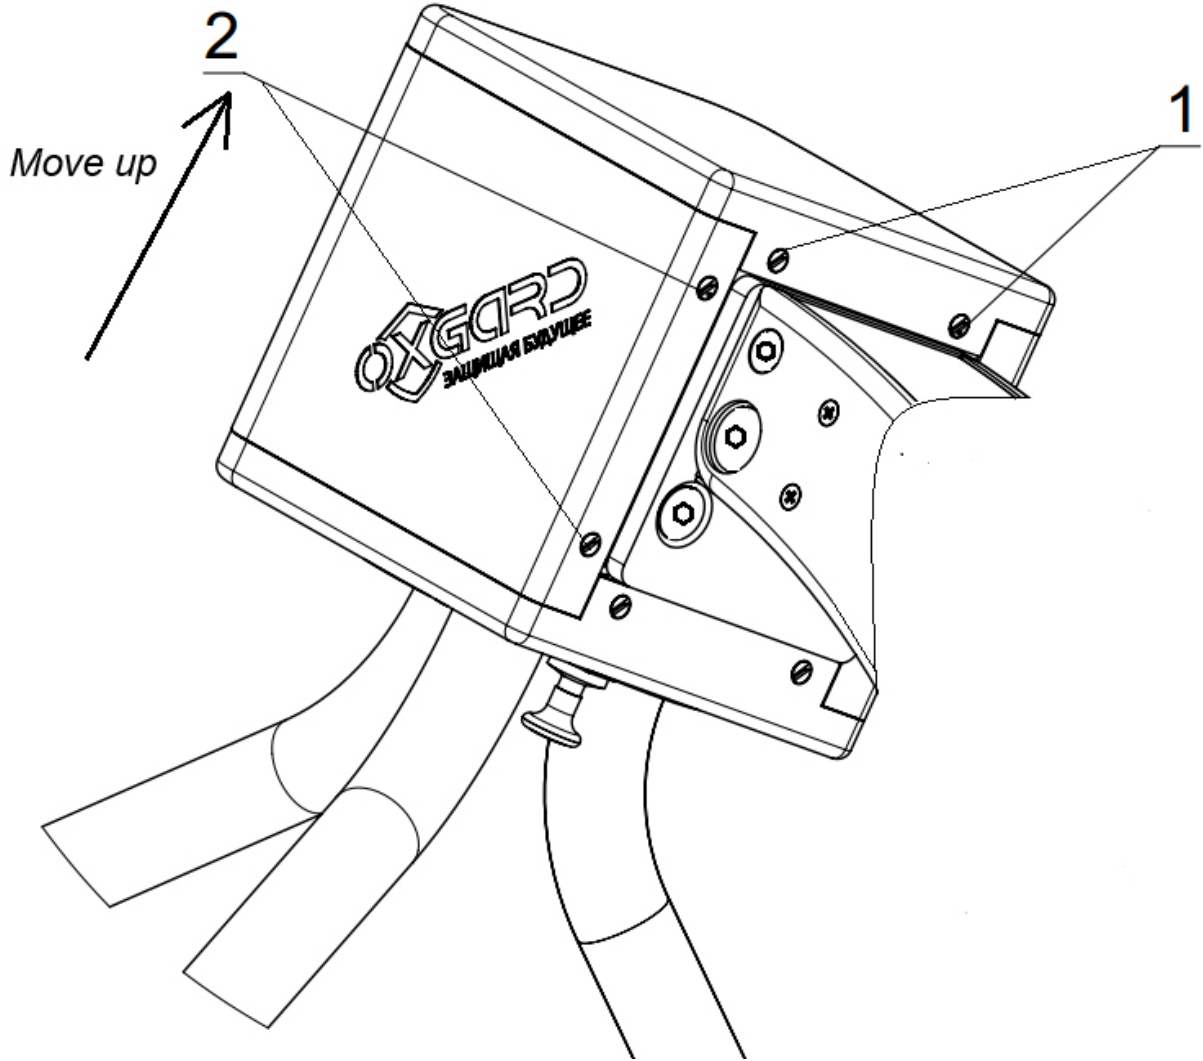

Fig.2.
the protective backshell. In order to get that done unscrew two screws (1) and four screws (2), smoothly move the backshell up at a small distance so that not to break the cable, coming to the indication board (Fig. 2). Disconnect the cable from the indication board.